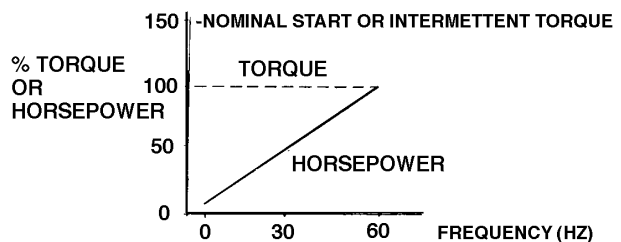

Figure 13
The inverter is factory set to provide constant torque from 6 to 60 Hz (Figure 13) and will operate any similarly rated 3-phase 60 Hz Induction, Synchronous, or AC Permanent magnet motor. The 60 Hz speed is determined by the number of poles (P). Motor current is essentially constant throughout the speed range when using a standard 60 Hz motor.